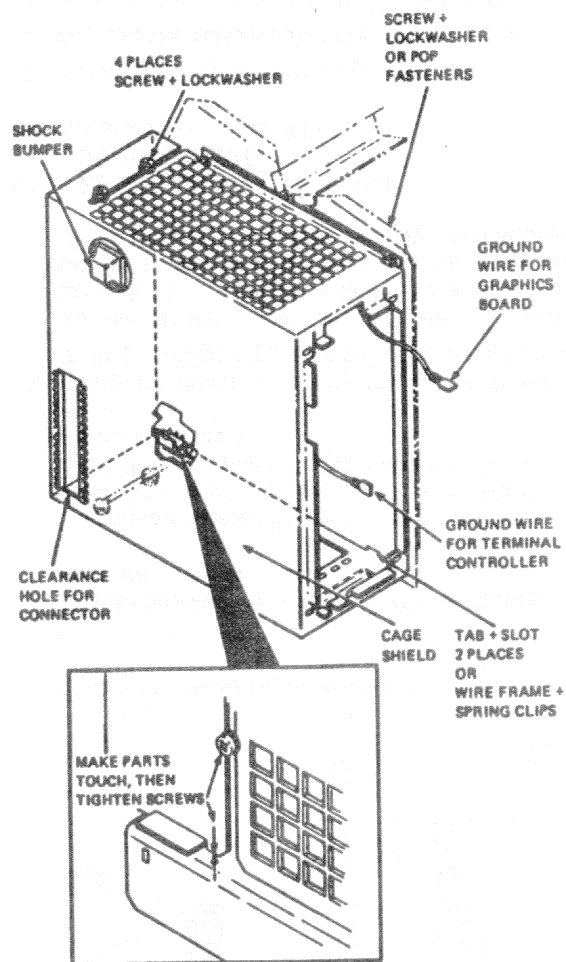

Figure 5-17 FCC Shield on VT100 Cage
5. Loosen, but do not remove, two Phillips screws at the top of the shield (Figure 5-17).
10. To install the shield, perform steps 1 through 9 in reverse. At step 8, compress the metal contact fingers on the shield (Figure 5-17) by pressing on the shield until the indicated parts touch.